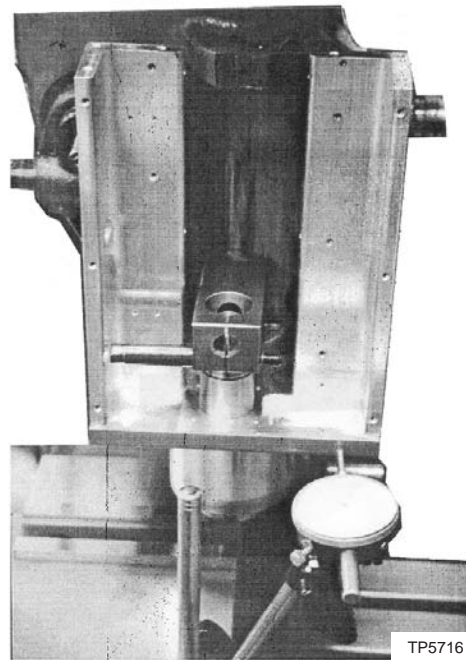

Figure 12.8 - Zeroing in the Third Axis Lower Housing
16. Tighten the screw with a hex wrench on the head of the screw while holding the nut with a combination wrench. Watch for any movement on the indicator detecting the lower assembly is twisting out of alignment (see Figure 12.8).